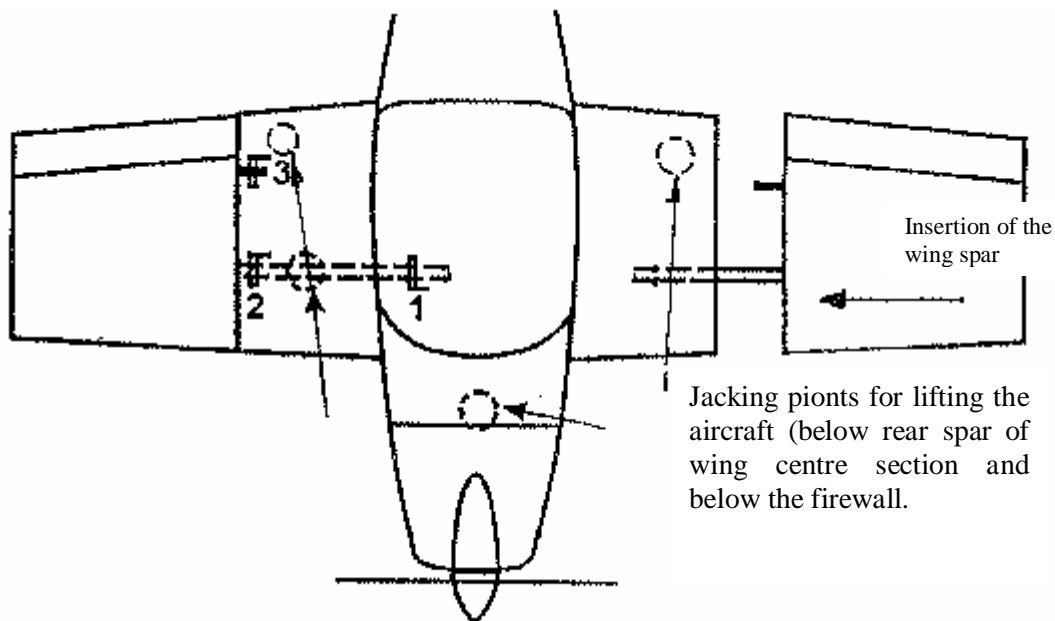

Fig. 3 Insertion of the wing spar into the wing centre section, position of the wing pins and the support points.
1. Fit the spar end of the right wing into the spar end (fork) of the wing central section and push the wing along its longitudinal axis so that a connection slot between the wing central section and the wing root is approx. 100 mm (Fig. 3). Connect the hoses from the Pitot-static tube (connect the wiring for position lights, strobe lights, if lights installed).
5. Pull out the wing along its longitudinal axis so that there is a distance between the wing and the wing root of approx. 100 mm (Fig. 3). Disconnect the hoses from the Pitot-static tube (disconnect the position lights wires etc, if lights installed).